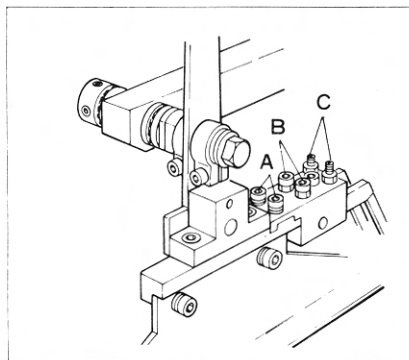

Figure 15
5. Presser Foot Adjustment (Figures 15 and 16)
- (a) The two bracket mounting screws (A) allow for side to side adjustment of both presser feet to the needles.
- (b) The presser foot height is adjusted using the two long allen screws (B) on the mount bracket. The presser foot must be adjusted to rest on the folded welt. This is achieved by adjusting the two short allen screws (C) on the mount bracket.